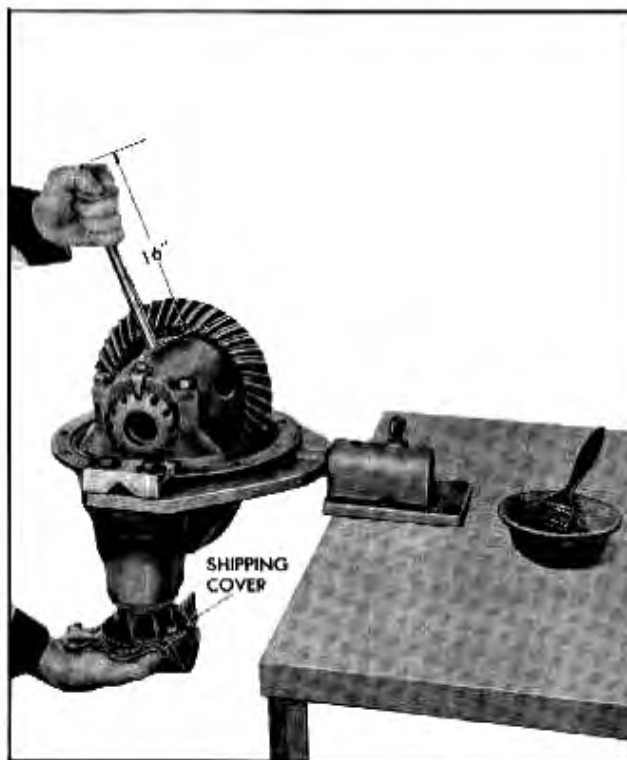

Fig. 4-24 Checking Tooth Contact Pattern—Red Lead Test
6. Insert a $\frac{3}{4}$ " diameter bar into pinion shaft holes in differential case. Load gear set by using left hand (protected by a cloth) as a brake on flange shipping cover while right hand is rocking the ring gear back and forth several times with a grip on the bar about 16" from the case (Fig. 4-24). A pattern should be impressed on all ring gear teeth. A test made without loading the gears will not give a satisfactory pattern.